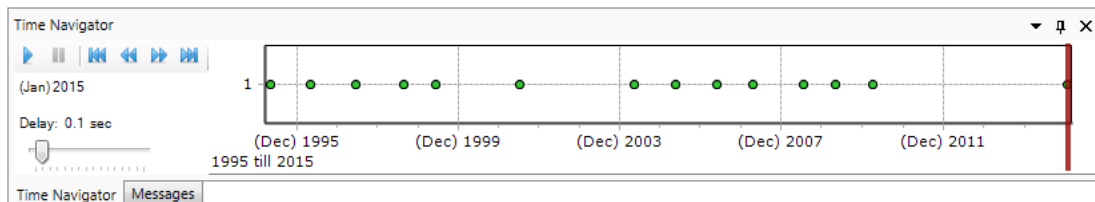

Figure 3.15: Time Navigator with single time indication
- ◇ Single time indication. In this case, the time navigator bar has a vertical line indicating position in time. Only a single moment in time is displayed, as stated on the left (see Figure 3.15).